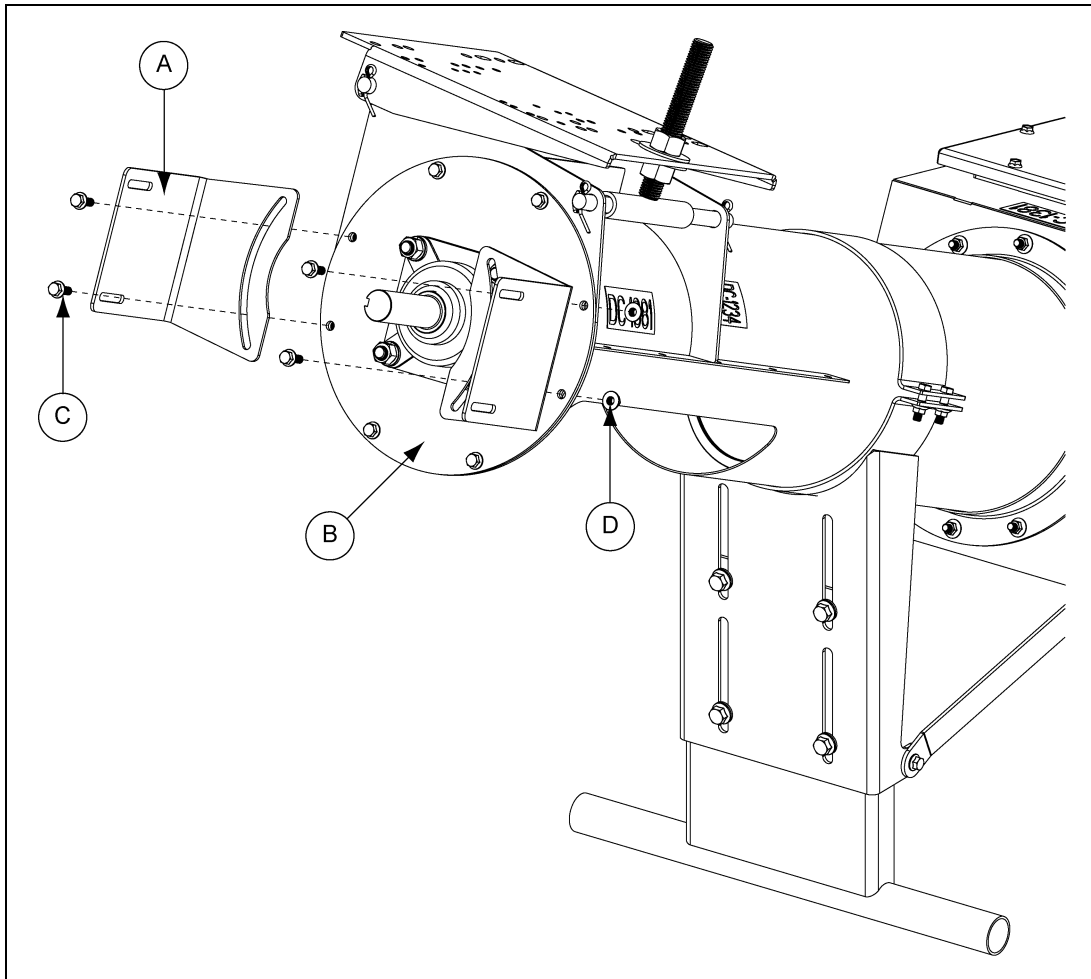

Figure 4G
1. Align the holes on the bearing plate (B) with the slots on the belt guard mounting brackets (A).
2. Secure the brackets (A) with proper bolts (C) and flange nuts (D). (See Figure 4G.)